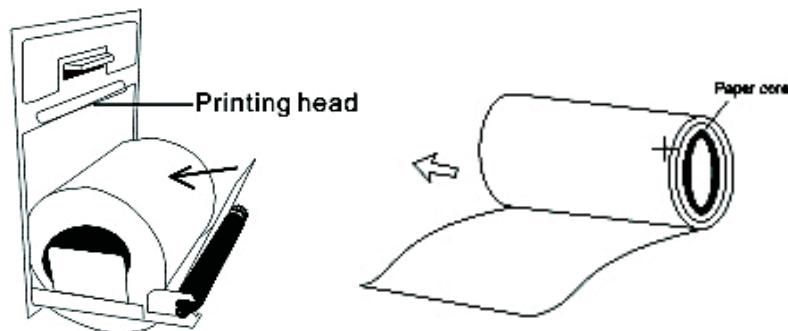

Fig.2.7
Secondly, press the clap on the other terminal of the grounding wire to connect with the user's ground system. Refer to Fig. 2.7
2. Place a new roll of paper into the paper cassette door with a few inches of paper being unrolled. And then push slightly the roll of paper to the paper cassette (refer to the Fig.2.7). Ensure proper orientation of paper roll.